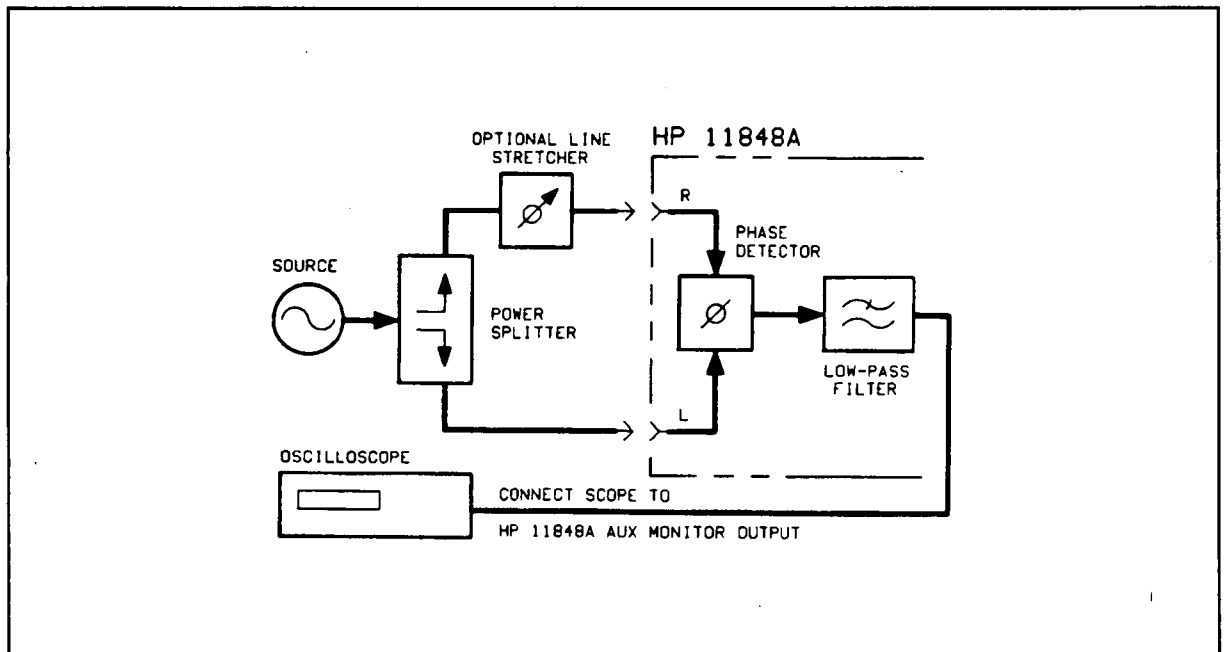

Figure 2-10. Connection to Optional Oscilloscope for Determining Voltage Peaks
1. Connect circuit as per figure 2-10, and tighten all connections.